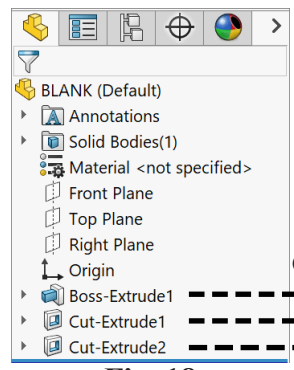
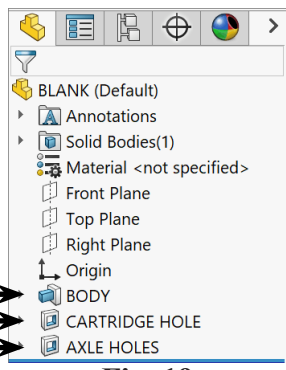

Fig. 18
Fig. 19
Step 1. **Rename Features** in the Feature Manager. To rename, slowly click twice over the Feature name (F2) and key-in new name, **Fig. 18** and **Fig. 19**.